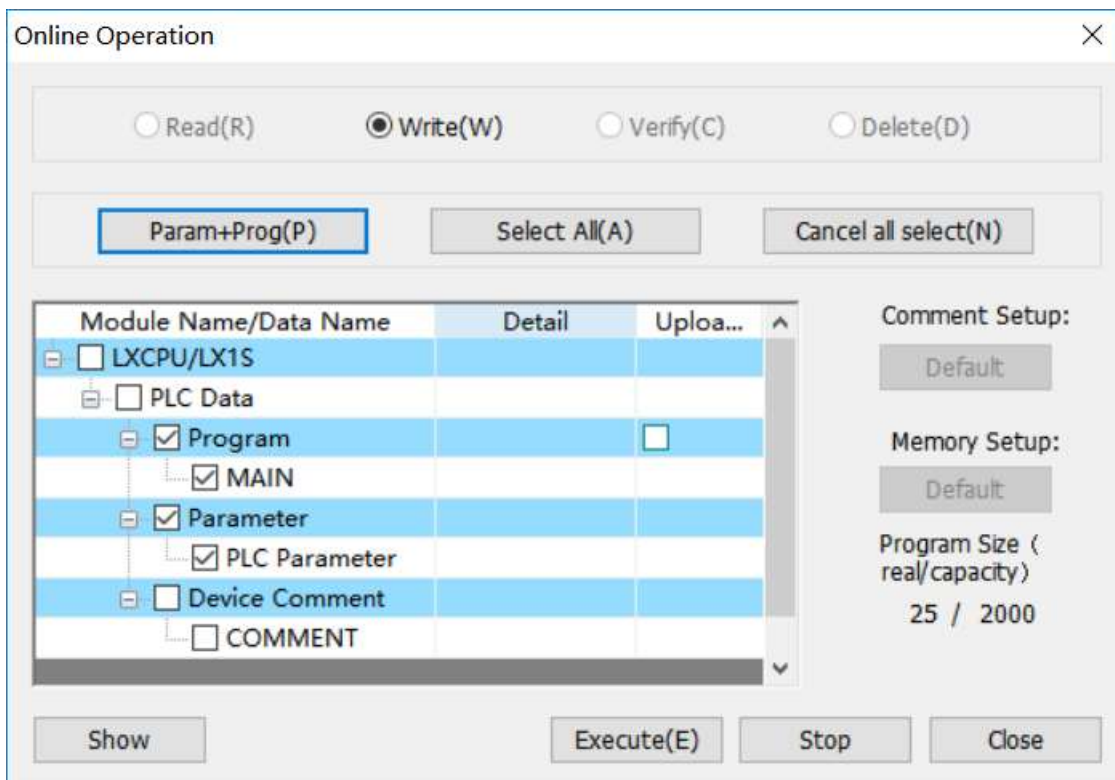

Figure 5-9
3) Select downloading content by click buttons, such as [Param + Prog (P)], as Figure 5-9 shows.